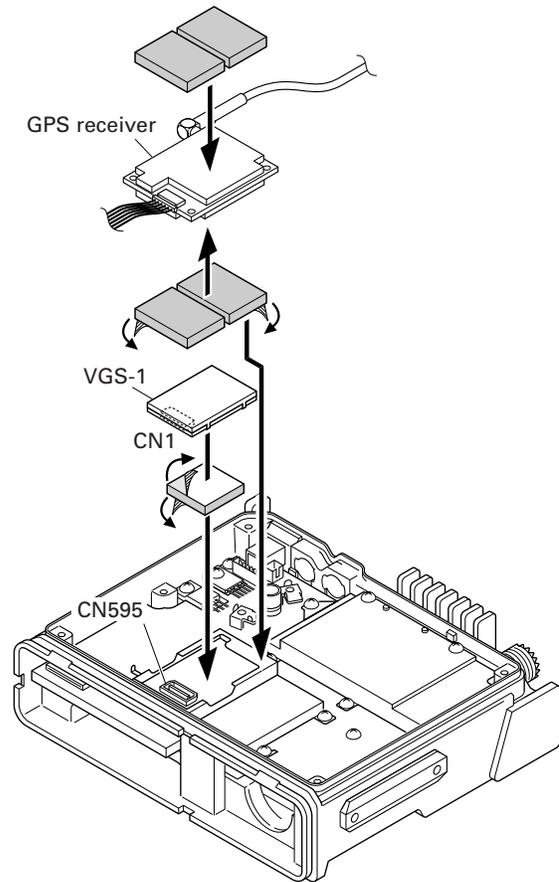

Fig. 6-5
3. Attach a cushion to the bottom of the VGS-1 as shown in Figure 6-5.